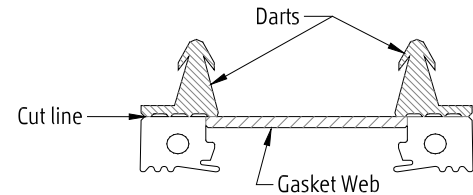

Figure 11 - Mullion Gasket
- A U-shaped sliding shear clip must be located at each end of each horizontal with the legs pointing away from the glazing pocket, and the pins oriented out of the horizontal (Figure 11).